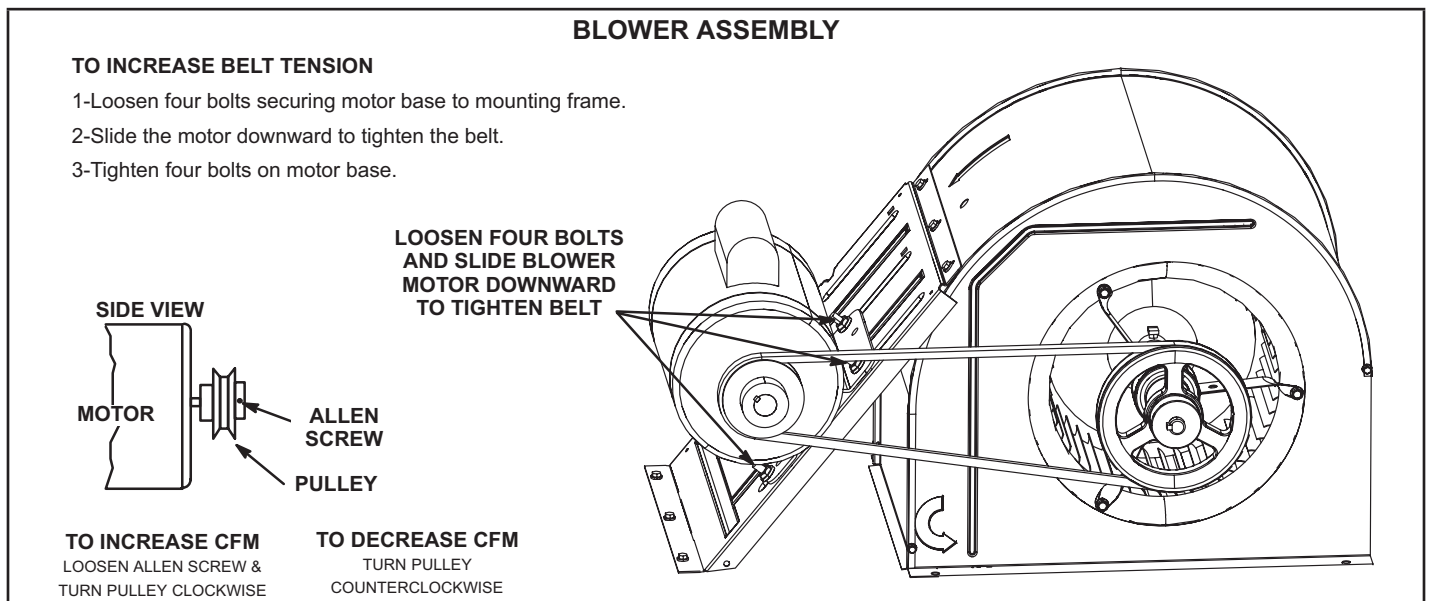

FIGURE 7
- 4 - The blower RPM can be adjusted at the motor pulley. Loosen Allen screw and turn adjustable pulley clockwise to increase CFM. Turn counterclockwise to decrease CFM. See FIGURE 7. Do not exceed minimum and maximum number of pulley turns as shown in TABLE 5.
- 1 - Loosen four bolts securing motor base to mounting frame. See FIGURE 7.